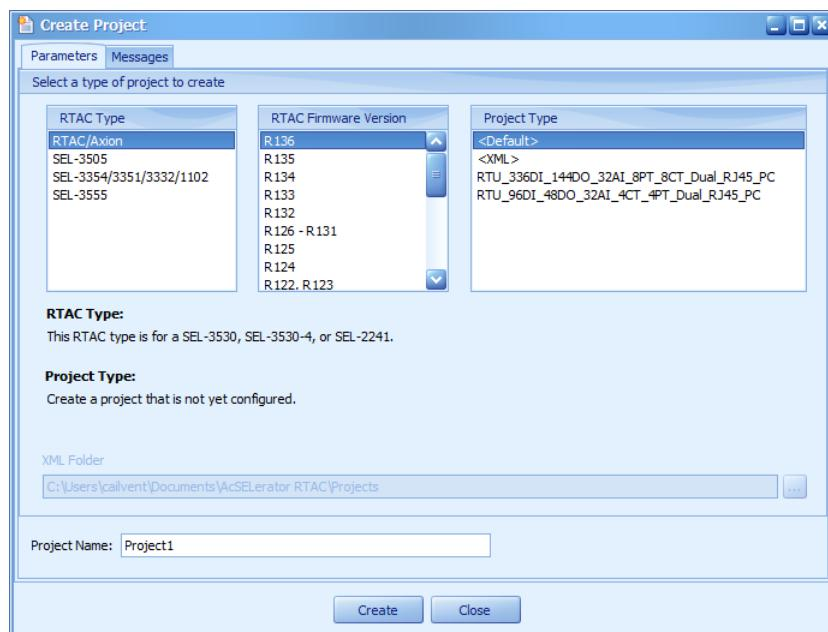

Figure 151 Create New Project
- Step 1. Create a new project in ACSELERATOR RTAC from the main menu, as shown in *Figure 151*.